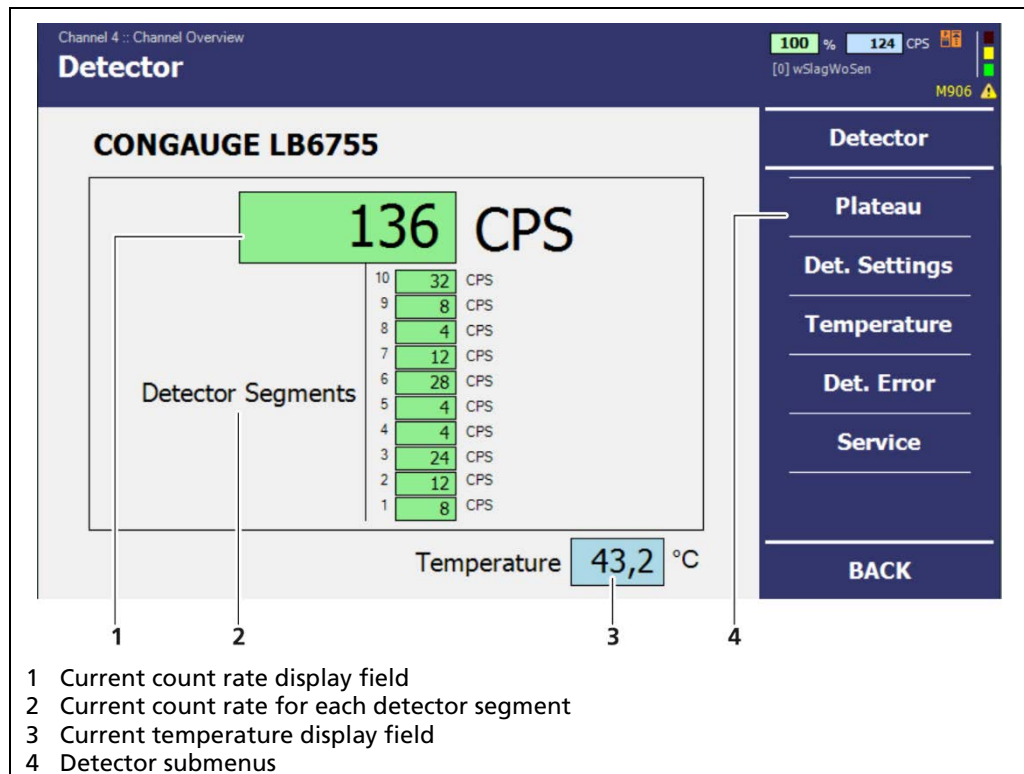

Fig. 10 "Detector" menu
- The "Detector" submenu opens (Fig. 10).
1. In the menu Channel X | Channel Overview | Detector, click on <Plateau> (Fig. 10, pos. 4) to access the "Plateau" submenu.